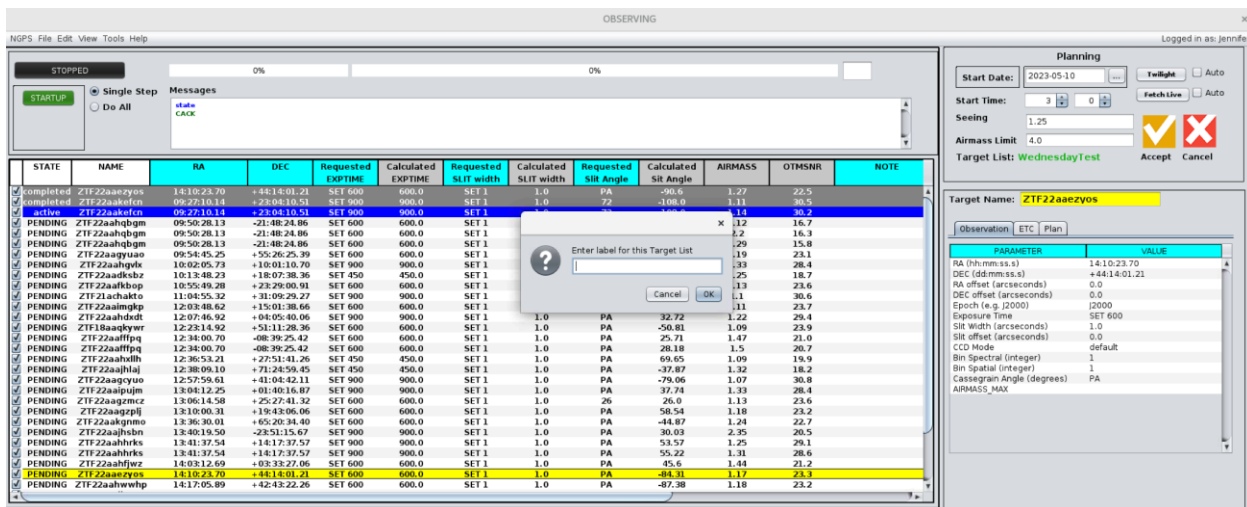

Figure 22 File > Save As ... Dialog
**Cancel** will close the selection dialog window and return the user to the main display shown in Figure 15. Clicking **Open** will load the selected target list, close the selection dialog window, and return the user to the main display, filling the displayed table with the contents that were just loaded and displaying what is shown in Figure 22.